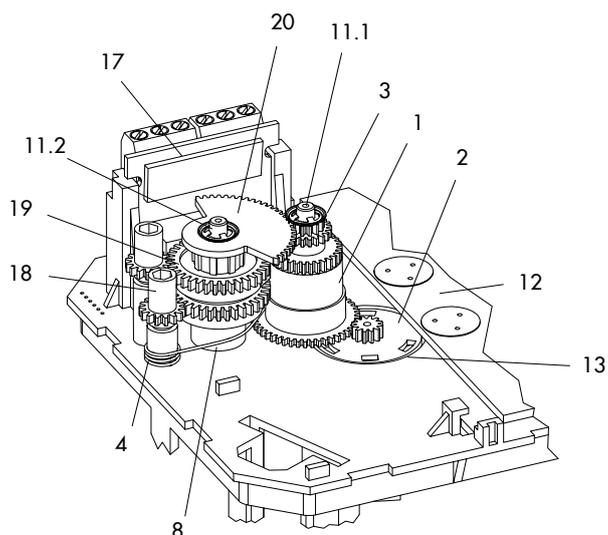
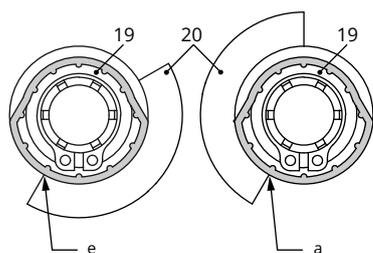

Fig. 20: Inside view of Type 3374 Actuator
Fig. 21: Contact cam and switch carrier
The contact cams (19) are ready-mounted to the cam holder (20) and the retaining rings (9) to form the contact cam unit (21) (see Fig. 21).
4. Slide adjustment gears (18) onto their spindles and fasten with one screw (16) each. Check whether the adjustment gears can be turned easily. Slightly loosen the screw, if necessary.
5. Turn contact cams (19) on the cam holder (20) as illustrated in Fig. 21 corresponding with the position of the actuator stem.
6. Slide the spacer (8) onto the spindle (11.2). Make sure that the long wire of the tension spring rests on the spacer and on the intermediate gear.
7. Slide the contact cam unit (20) onto the spindle corresponding with the position of the actuator stem as illustrated in Fig. 20. Make sure that the outermost cog of the contact cam unit engages in the gearwheel of the intermediate gear (1). In addition, the adjustment gears (18) must engage properly in the corresponding gears of the contact cam unit (20).
8. Secure the contact cam unit (21) and intermediate gear (1) with the serrated ring (3); push down the serrated ring as far as it will go.
9. Position the terminal board (17) at the base of the support at a 45° angle (approx.) with the switches pointing towards the gears. Swivel the upper end of the terminal board towards the gears until the board is in a vertical position and properly engaged in the support.